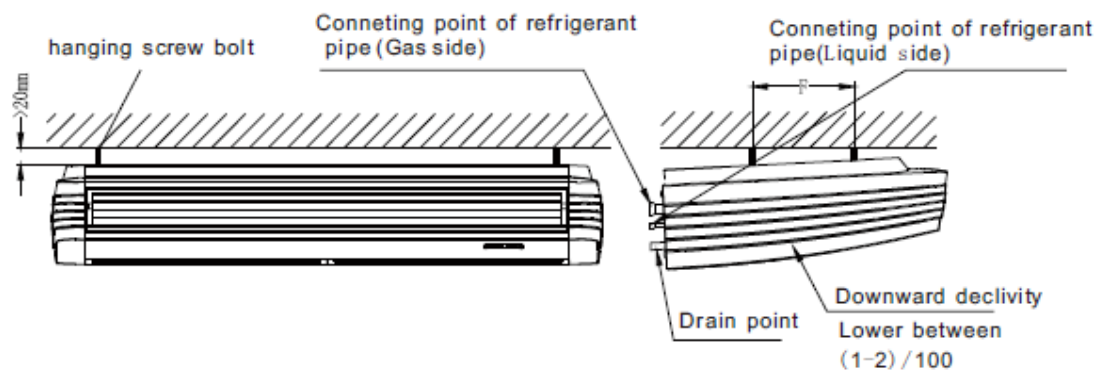

Fig 16
- Hang the unit on the hanging arm by sliding backward. Securely tighten the mounting bolts on both sides (Refer to Fig 16 )